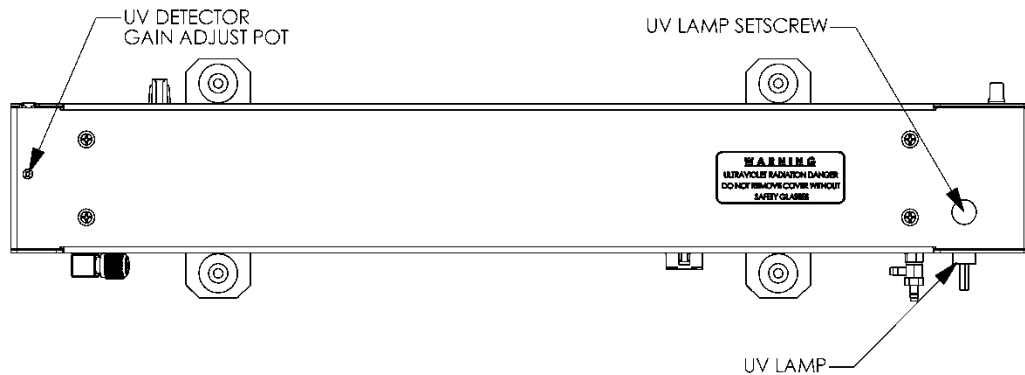

Figure 5-8. Optical Bench – Lamp Adjustment/ Installation
3. Locate the **UV DETECTOR GAIN ADJUST POT** on the photometer assembly, shown below in Figure 5-8
9. Turn the UV GAIN ADJUSTMENT POT (Figure 5-8) clockwise to its minimum value (the pot should click softly when the limit is reached).
12. Using an insulated pot adjustment tool, turn the UV DETECTOR GAIN ADJUST POT (Figure 5-8) until the Photo Detector signal value is as close as possible to 4600 mV.